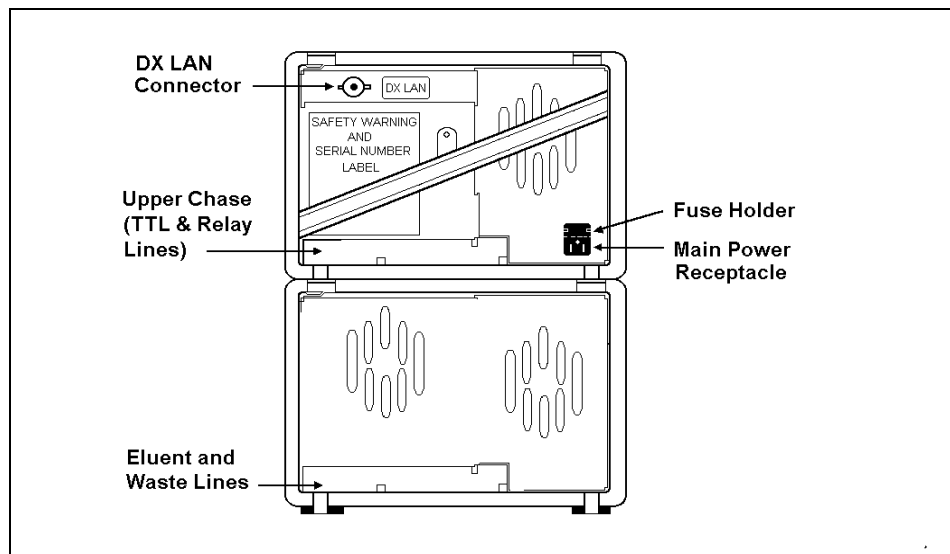
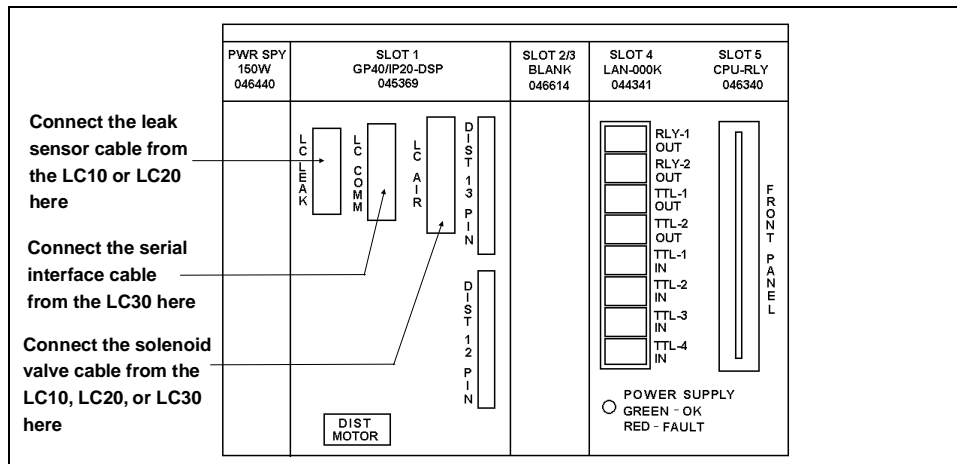

Figure B-1. IP20 Rear Panel
Figure B-2. IP20 Electronics Chassis
- For on/off control from the IP20, connect the modular power cord (IEC 320 C13), provided in the IP20 Ship Kit, from the main power receptacle on the rear panel (see Figure B-1) to a grounded, single-phase, power source.
1. Route the RJ-11 serial cable from the rear of the LC30 Chromatography Oven through the IP20 upper chase (see Figure B-1) or through one of the side slots. Connect the cable to the **LC COMM** connector on the pump electronic chassis (see Figure B-2).
1. Route the leak sensor cable from the rear of the LC10 Chromatography Organizer or the LC20 Chromatography Enclosure through the IP20 upper chase (see Figure B-1) or through one of the side slots. Connect the cable to the **LC LEAK** connector on the pump electronics chassis (see Figure B-2).
1. Remove any TTL/Relay plugs from the connectors at slot 4 on the electronic chassis (see Figure B-2).